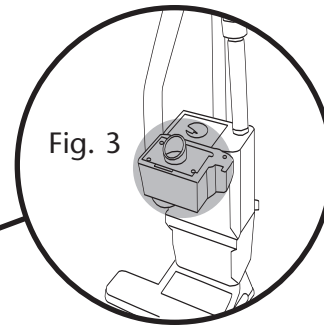

Fig. 3
3. Open Bag Housing Cover (Fig. 3) and replace Intercept Micro Filter. A full filter will restrict airflow.